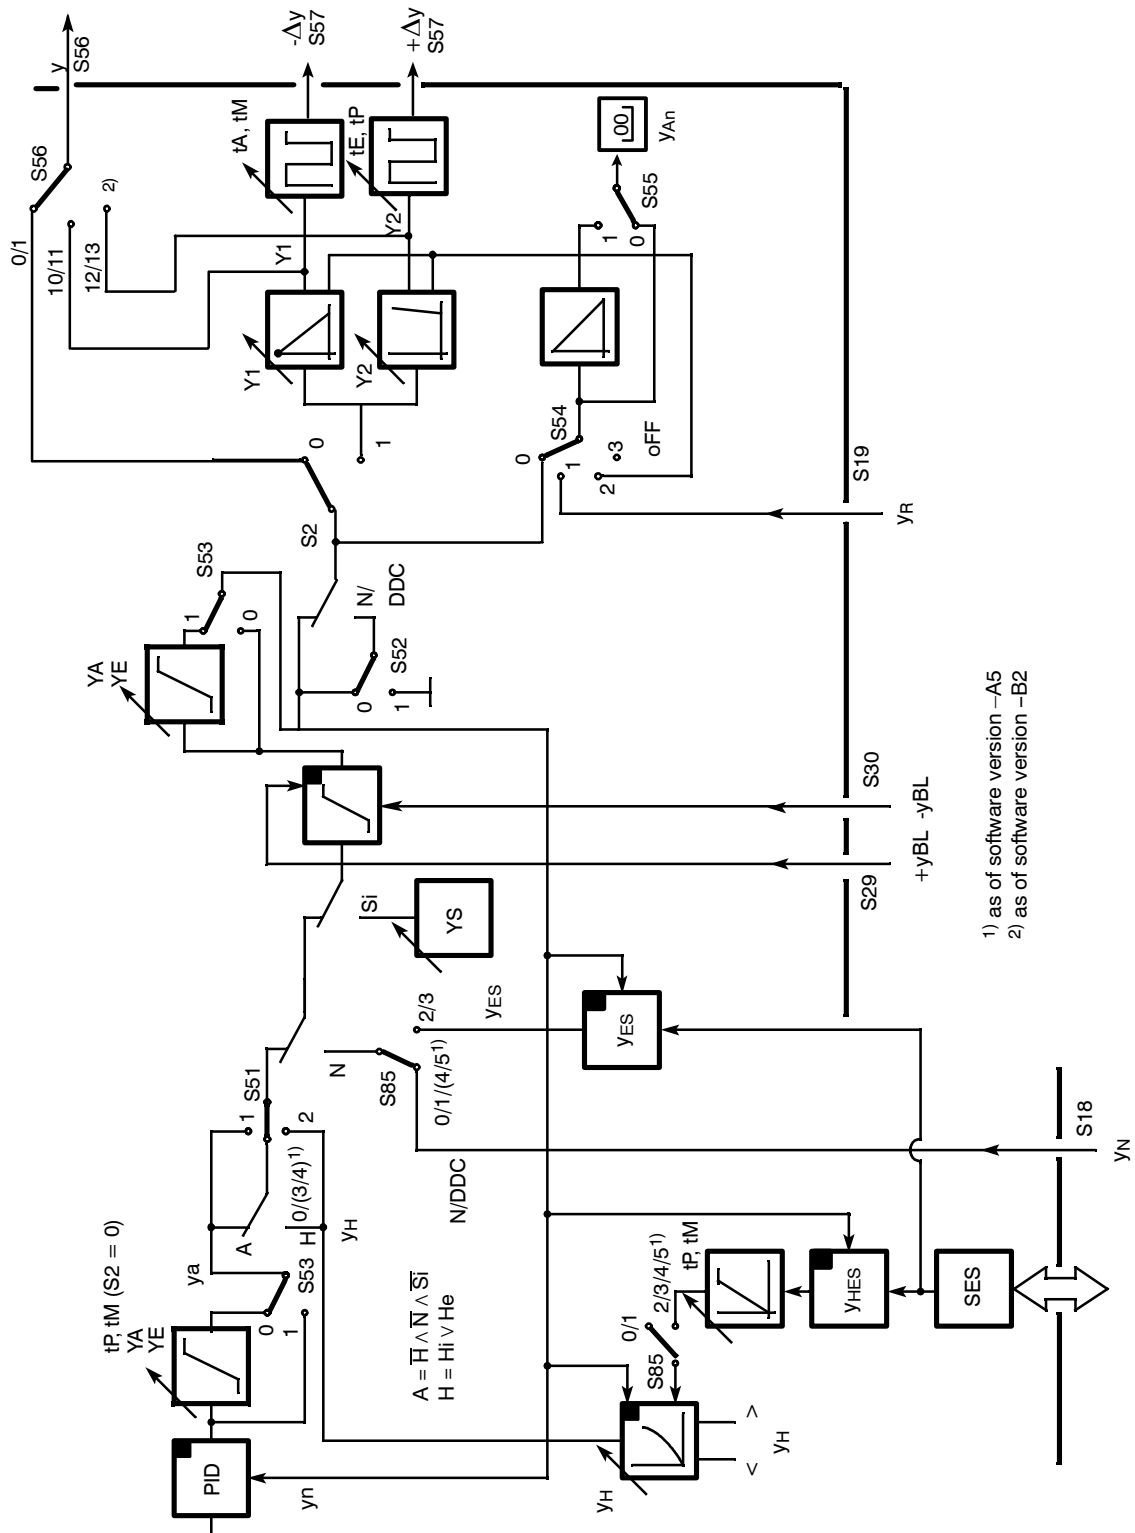
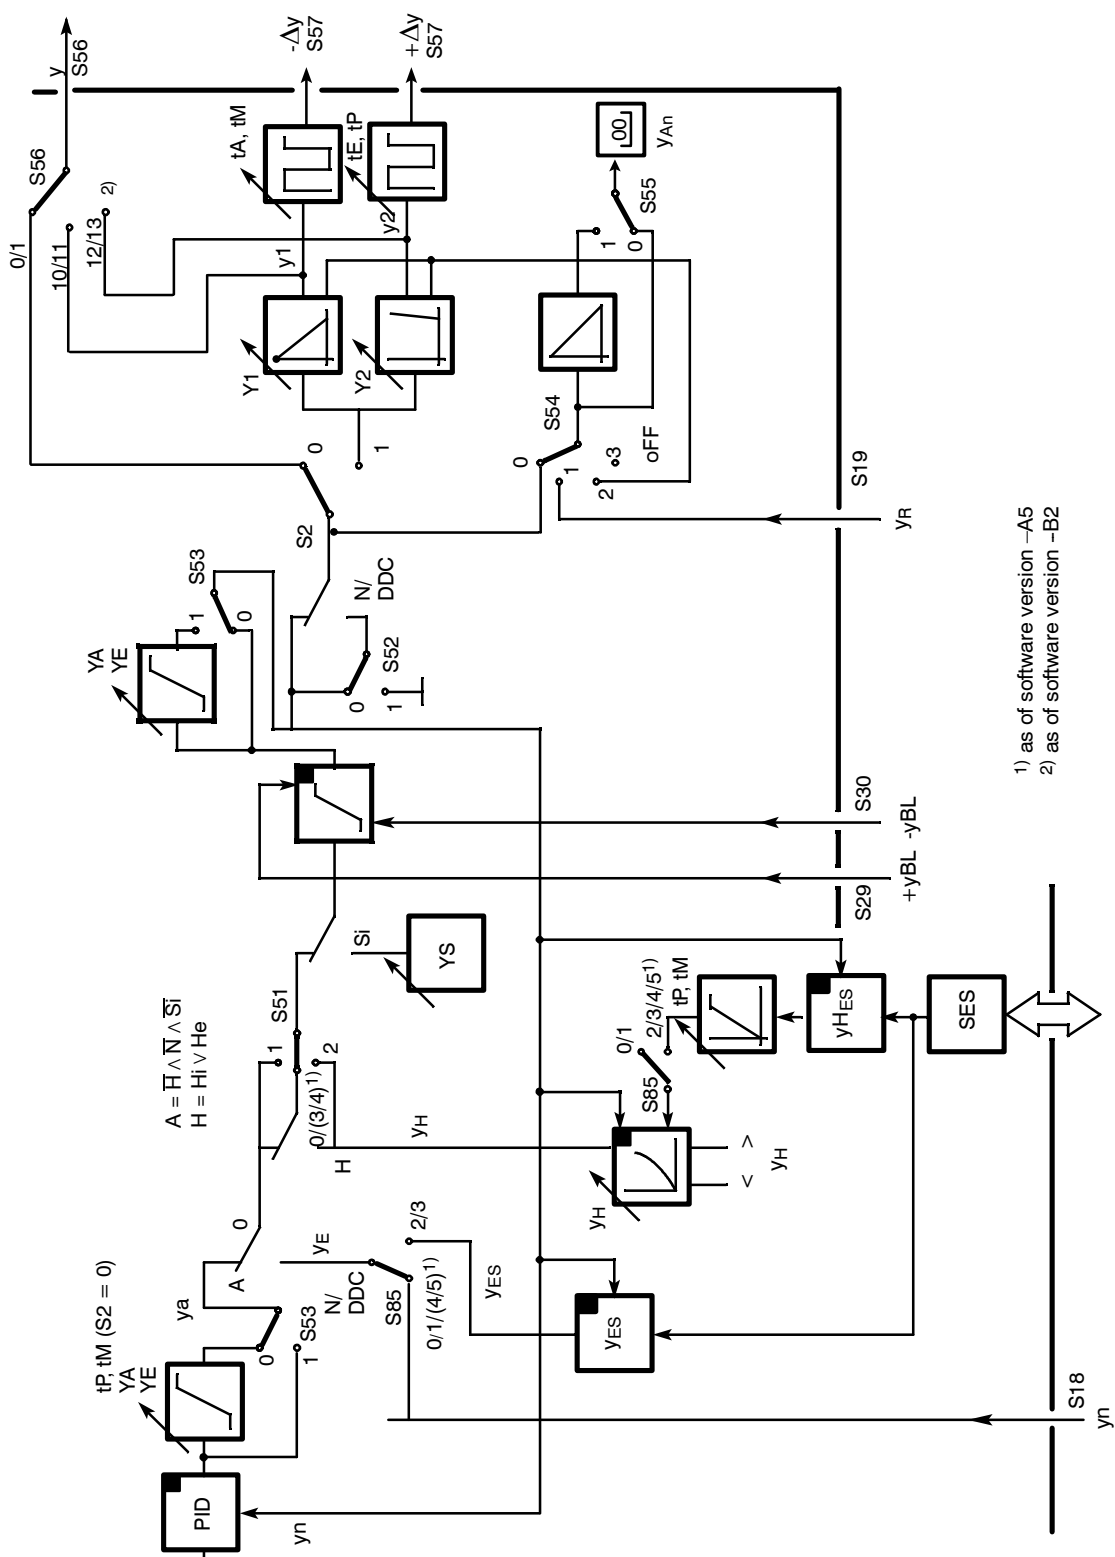

Figure 3-22 Block diagram K-controller S2 = 0 or two-position output S2 = 1
Figure 3-23 Block diagram K-controller S2 = 0 or two-position output S2 = 1
- **S2=0: continuous (K) controller** (figure 3-22, page 96 and figure 3-23, page 97)
This output structure is identical to the K-output structure in its switching options (see figure 3-22, page96 and figure 3-23, page97).